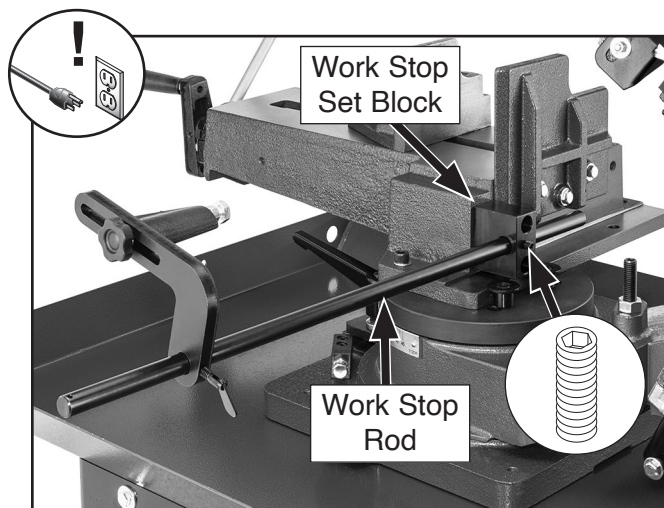

Figure 59. Location of work stop components to reposition.
2. Loosen thumb screw and remove work stop from rod (see **Figure 59**).
3. Loosen set screw in work stop set block and slide rod through to other side of machine (see **Figure 59**).